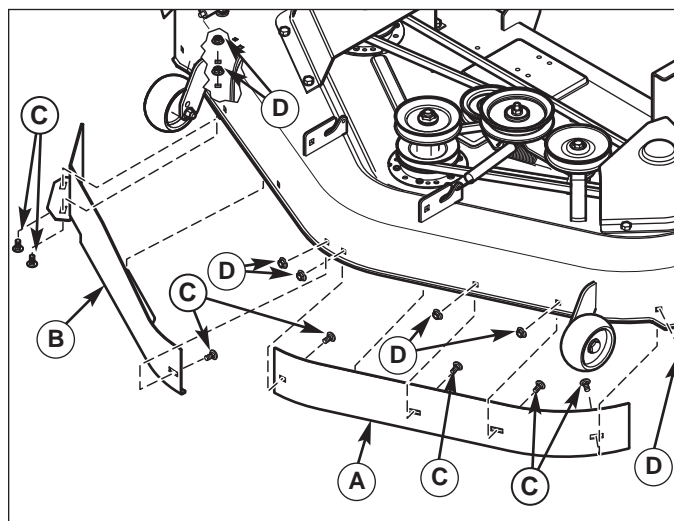

Figure 3. Blowout Baffle Installation
2. Install RH baffle (A, Figure 3), and secure with 5/16-18 x 5/8" carriage bolts (C) and 5/16-18 Whiz Lock nuts (D).
3. Install LH baffle (B), and secure with 5/16-18 x 5/8" carriage bolts (C) and 5/16-18 Whiz Lock nuts (D).